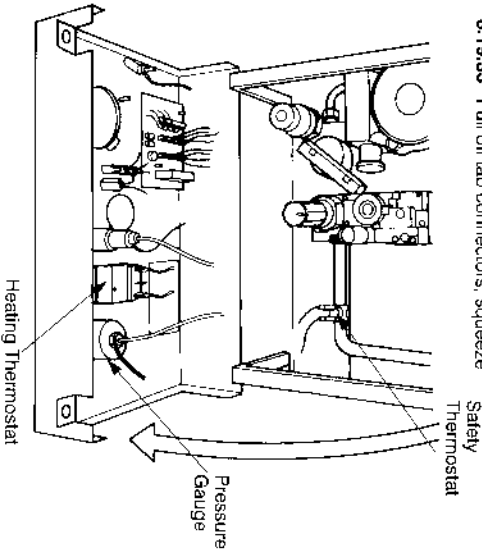

Fig. 33
Refer to figs 33 & 34
- 8.19.23 Reassemble in reverse order referring to figs 33 & 34 to ensure correct location of thermostat and push-on wiring tabs.